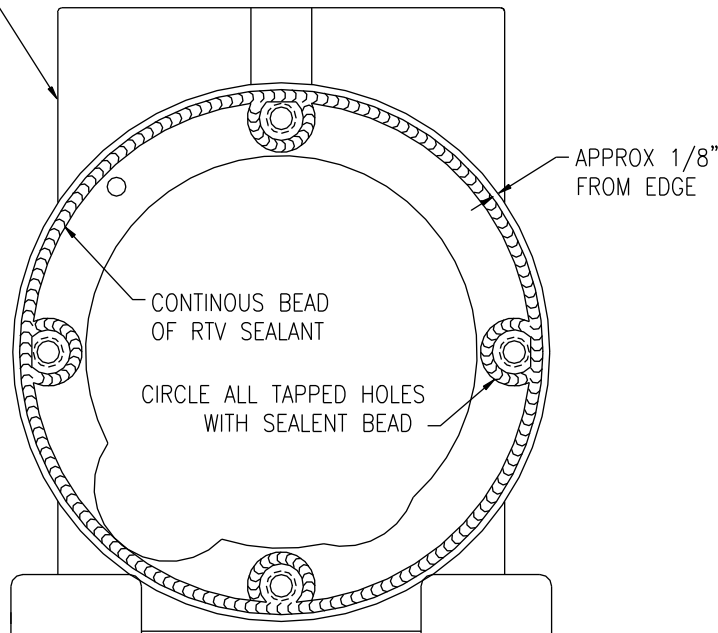

Figure 1
The liquid gasket material must be applied to faces in an area outside of any possible leakage path in a continuous bead circling the fastener holes (see Fig 1).
3. Apply liquid gasket material (Appendix 1) to the upturned face of the gearhead referring to Figure 1.
4. Place the input kit sub-assembly in position, taking care when engaging the primary pinion (23) with the primary gear (20).